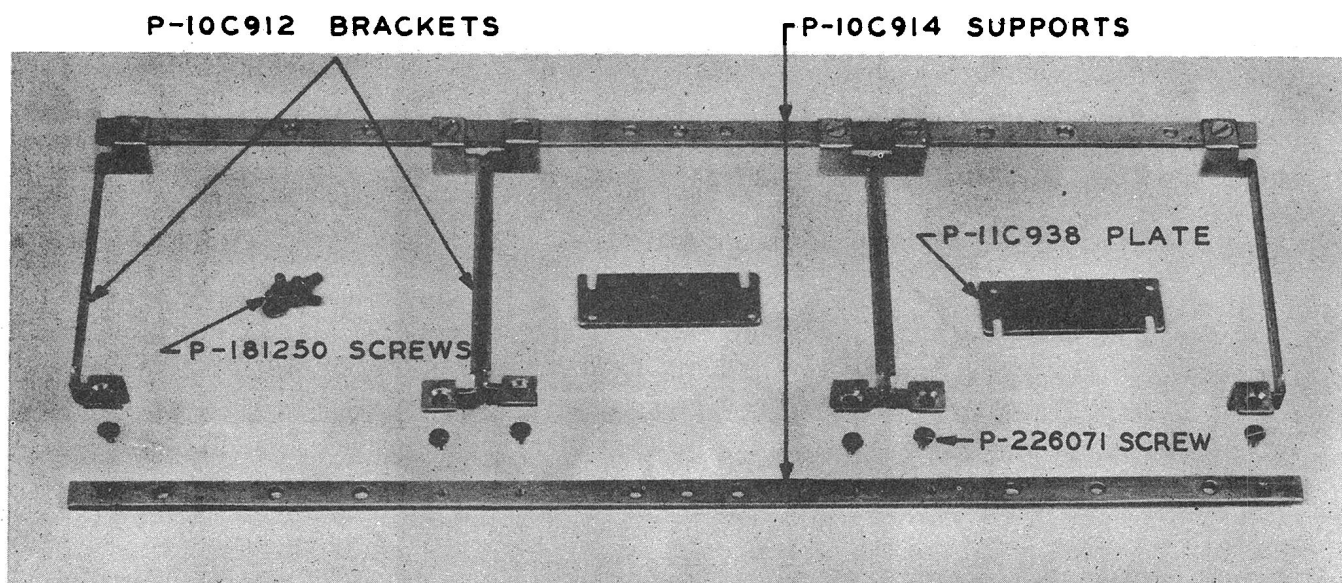

Fig. 11 – 392A Mounting Assembly
5.03 Each assembly consists of the necessary brackets, plates, supports, and screws (Fig. 11) to couple and support the unit and keys.